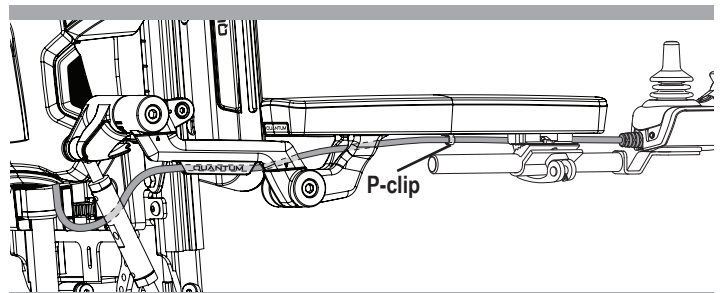

Figure 20. Cable Routing
6. Route the controller harness to the back of the power base and secure it with clips. **See figure 20.**